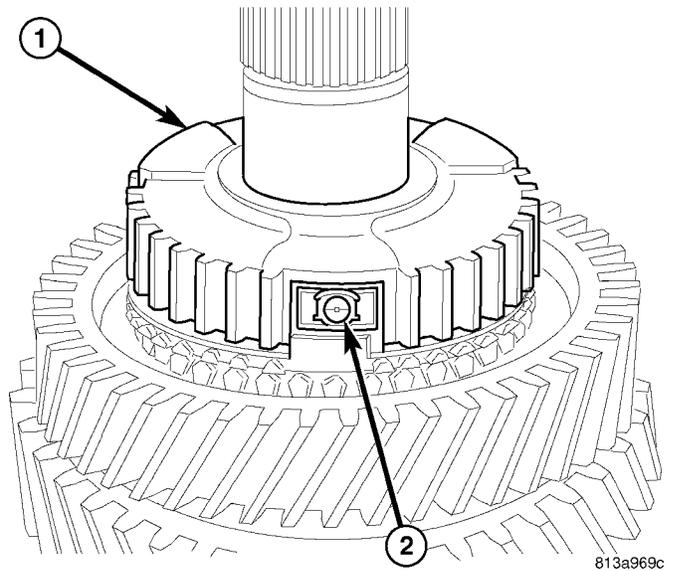

Fig. 76 REVERSE SYNCHRO HUB DETENT
(20) Install reverse gear synchronizer hub (1) (Fig. 76) detents (2).